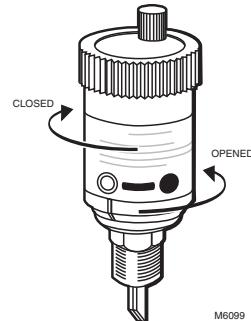

Fig. 4. Turn vent body counterclockwise to open or clockwise to close.
4. Make sure that the red vent cap is securely tight, and that the valve is in the closed position by turning vent body clockwise. See Fig. 4. Use hands only to avoid damaging the vent.
7. Operate the EA79 by turning the air vent body counterclockwise to the open position. Use hands only. See Fig. 4.
1. Turn the vent body clockwise to the closed position, isolating the vent from the system. See Fig. 4.
8. Operate the EA79 by turning the air vent body counterclockwise to the open position. Use hands only. See Fig. 4.